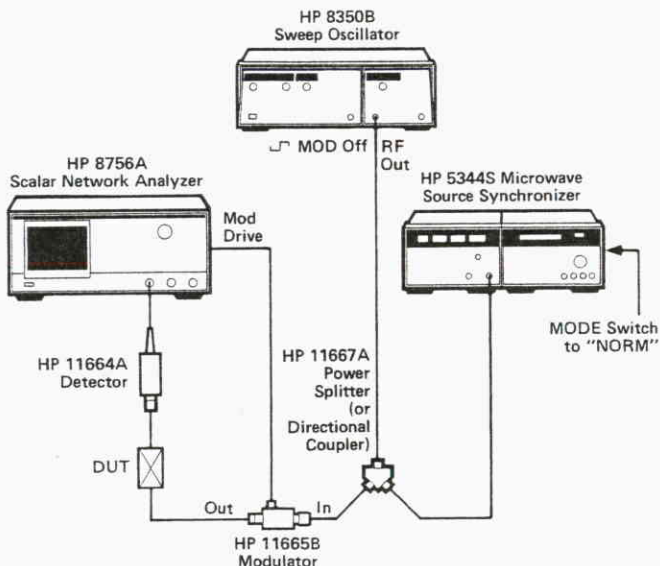

Figure 3. Transmission measurement using NORMAL LOCK.
6. Connect your RF measurement system. An example transmission measurement is shown in figure 3. Note that a power splitter or coupler and an external modulator are necessary so that the counter samples an unmodulated signal. Using subharmonic/offset locking, you can avoid using these components. This is discussed in a later section.
The MODE switch on the rear panel of the HP 5344A determines whether the HP 5344S will operate in normal (NORM) or subharmonic/offset (SUBHMNC) locking. There is a complete description of these modes in the HP 5344S Operating and Service Manual; a brief description is provided here. In the normal mode, the counter samples the plug-in's RF output directly, and no offsets or harmonics are used by the HP 5344S. Figure 3 shows a basic transmission measurement configuration in the normal locking mode. Note that a power splitter or coupler is required to sample the RF output, and external 27.8 kHz modulation is required so that the counter samples an unmodulated signal.